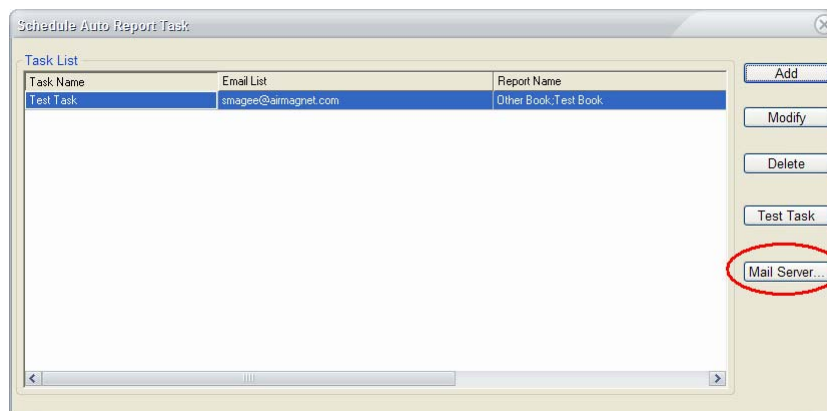

Figure 11-6: Mail Server Button
- 2) Click the **Mail Server...** button located at the lower-right portion of the window. See Figure 11-6.